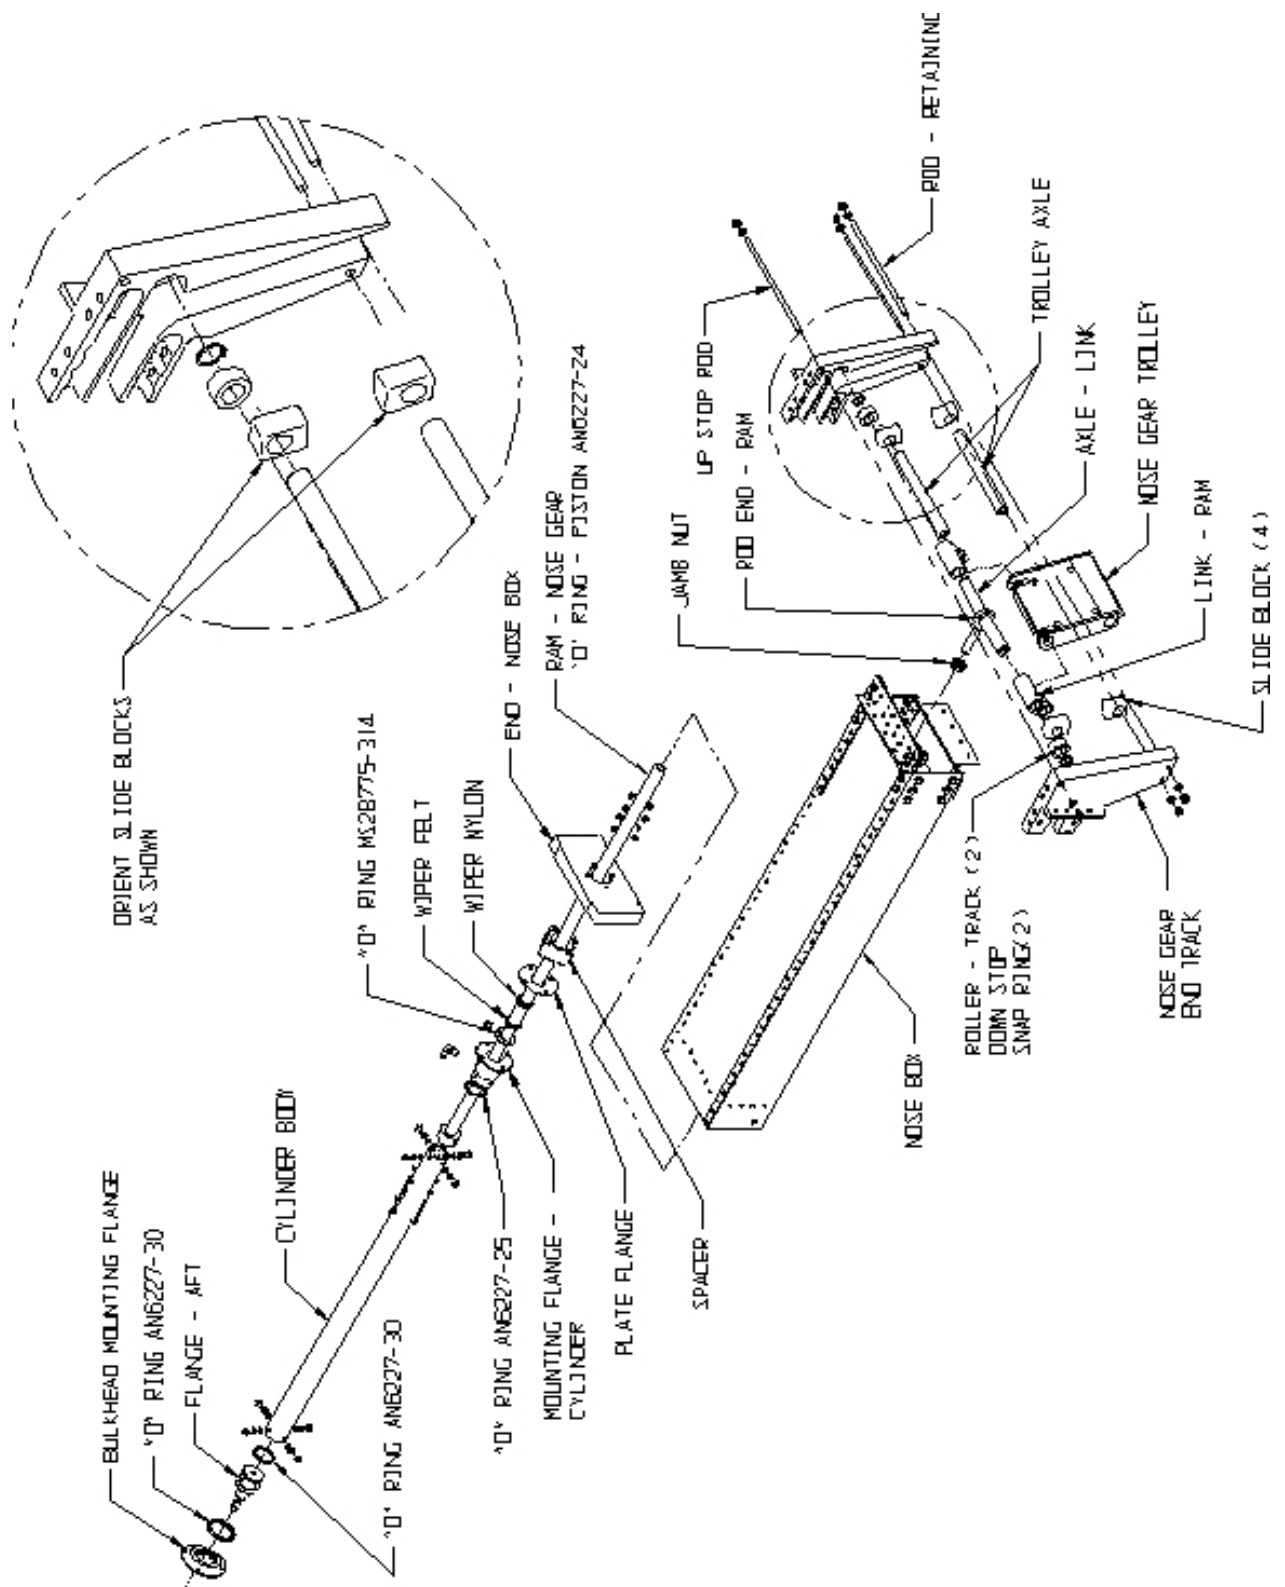

FIGURE 2.9 ASSEMBLY – NOSE GEAR BOX AND RETRACTION
The nose gear has an over-center down lock. Retraction occurs when pressure is applied to the forward face of the actuator piston and the carriage is drawn along the tracks in the nose box as shown in figure 2.9. Gear position light proximity switches are closed when the piston containing the magnetic material has reached either end of its travel.
The up stops nests in the up-stop bolt. See figure 2.9 and 2.10 for locations and assembly.
Gear must be in down position. Unbolt the spring from the trolley. Relieve the pressure in system, place gear selector handle in neutral position (lever between up and down), and remove rear hydraulic line. Remove (4) bolts on forward end of cylinder. Drain fluid. Pull aft to expose internal piston rod. Loosen jamb nut on forward side of cylinder ram at rod end. Turn piston from aft side of nose box out of rod end. Push on trolley assembly to unlock and remove the bottom thru-bolts. Slide out of nose box. Note: On installation, adjust piston so it bottoms out on aft flange at the same time as the bearings when nose gear is in locked position. Also note orientation of trolley blocks. The side with the most edge distance from hole is to go toward each other on inside of trolley. (See figure 2.9 for details).